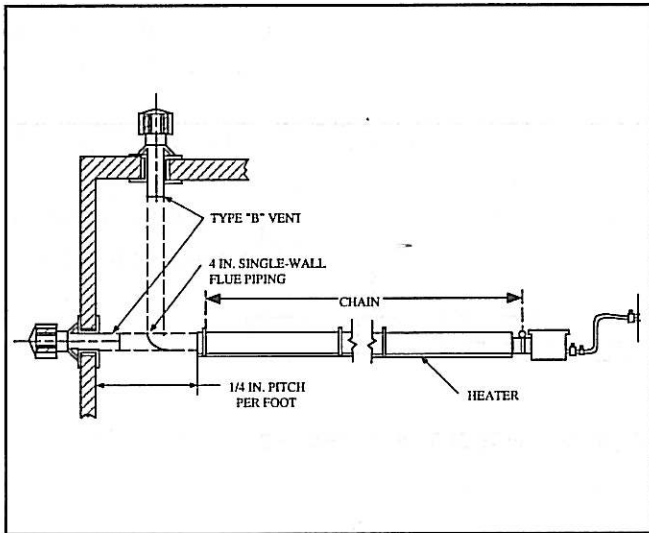

Figure 2-17
- Horizontal flues should be pitched down toward outlet, 1/4 in. per ft of the vent length, to prevent rain from entering the heater (see Figure 2-17). Do not pitch heater.